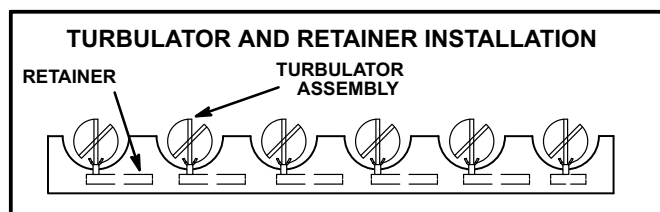

FIGURE 5
- Carefully insert turbulator assemblies into heat exchanger tubes. Orient as shown in figure 5.